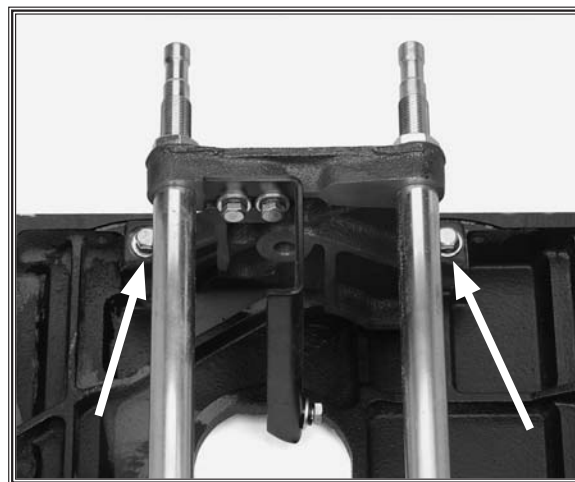

Figure 60. Trunnion hex bolts (only two shown).
7. Place the saw table down as shown in **Figure 60**.
1. Loosen the 4 hex bolts securing the trunnion (**Figure 60**).
1. Remove the 4 trunnion bolts (**Figure 60**).